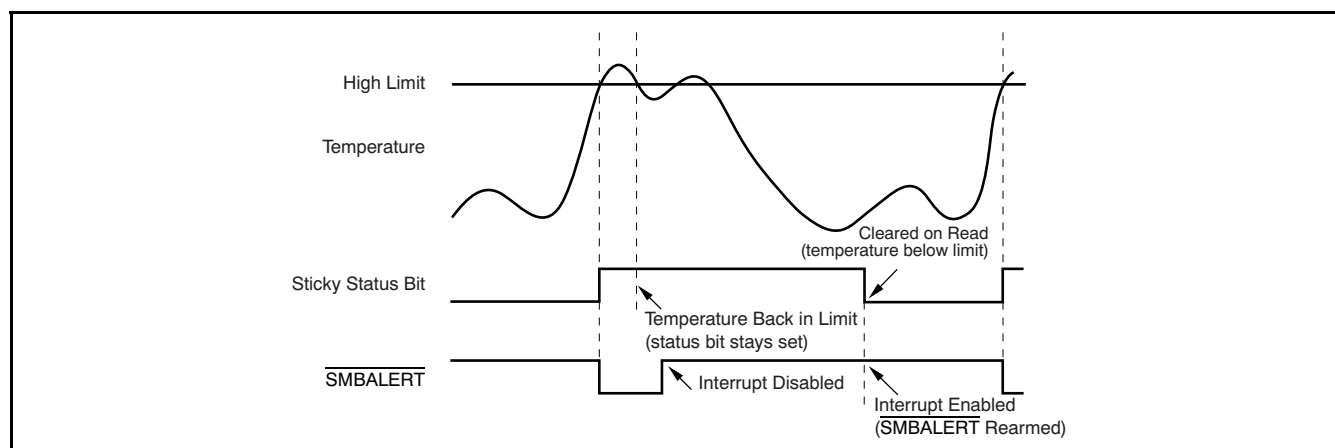

Figure 23. How Masking the Interrupt Source Affects $\overline{\text{SMBALERT}}$
The $\overline{\text{SMBALERT}}$ pin is a standard interrupt output defined by SMBus specification revision 2.0. This pin is an open-drain output pin and is shown in Figure 23.
7. Periodically poll the status registers. If the interrupt source bit has cleared, reset the corresponding interrupt enable bit to 1. This makes the SMBALERT output and status bits behave as shown in Figure 23.